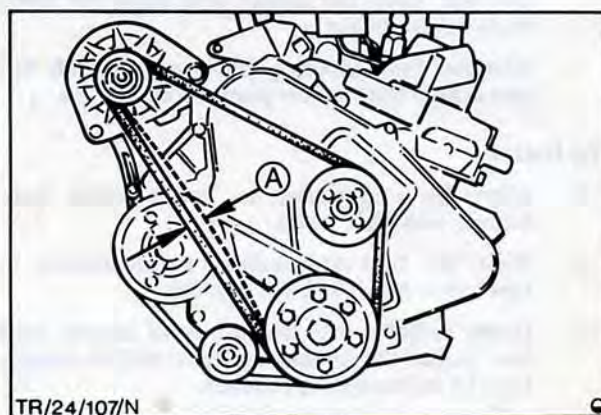

Fig. 36. Fan belt adjustment point 'A' see technical data page for tension
4. Fit fan belt over crankshaft, water pump and alternator pulleys. Adjust belt to correct tension, refer to technical data page for details. Fig. 36.
5. Refit auxiliary drive belt over crankshaft outer pulley, vacuum pump and jockey pulleys. Adjust jockey pulley to give correct travel when checked at mid-point of longest span, Fig. 36.